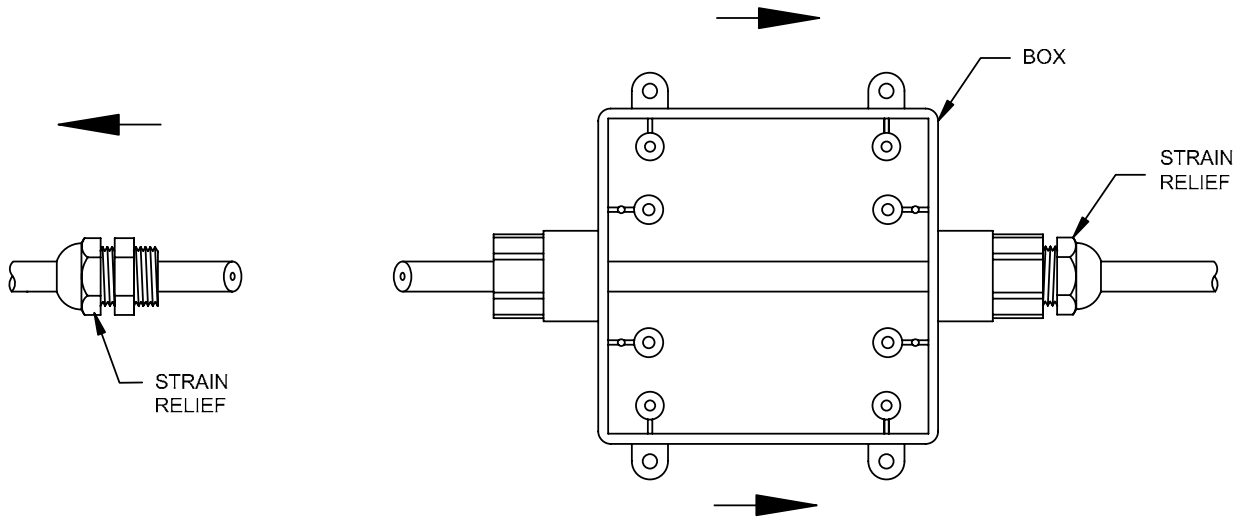

Figure 6.20 – MTI Strain Relief and Enclosure
- Step 2:** Follow Figure 6.20, slide the enclosure with the strain relief over the end of one cable. Slide the other strain relief over the end of the other cable.